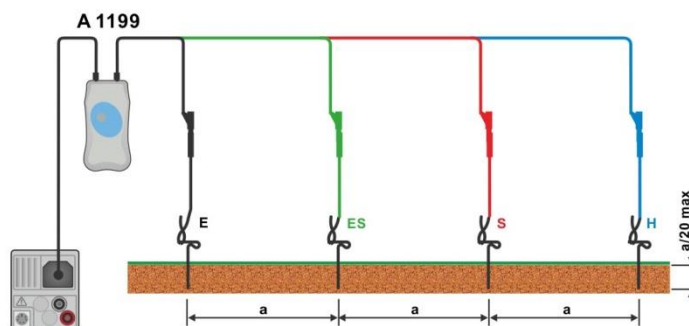

Figure 7.60: Specific earth resistance measurement
- › Connect test leads to earth probes, see **Figure 7.60**.